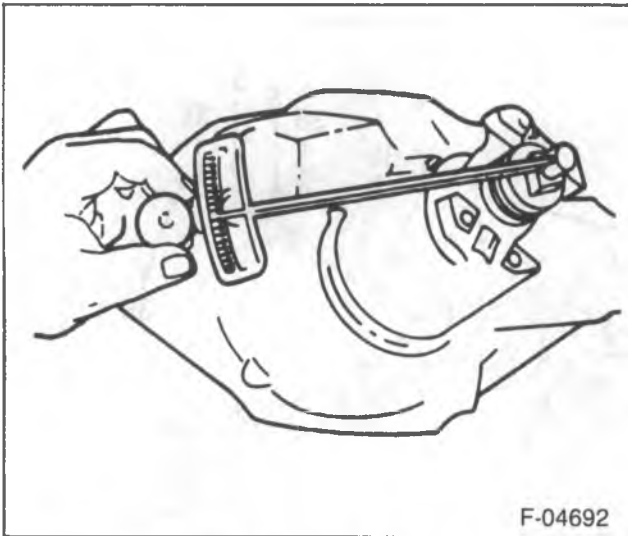

Figure 4—Checking Pinion Bearing Preload
- Drive pinion bearing preload (figure 4).